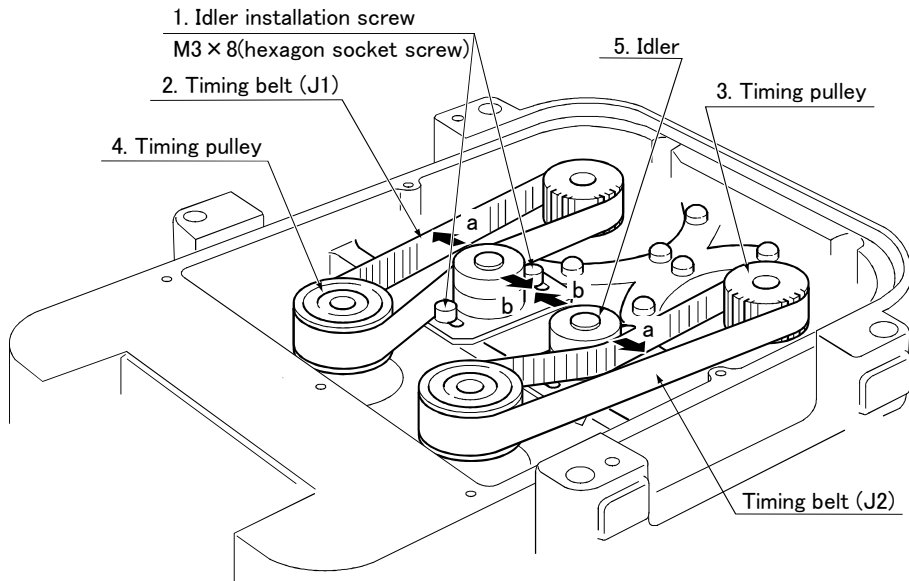

Fig.5-6 : Inspecting, adjusting and replacing the lower base timing belt
- 3) Referring to Fig. 5-6, install so that the robot arm installation surface faces upward.